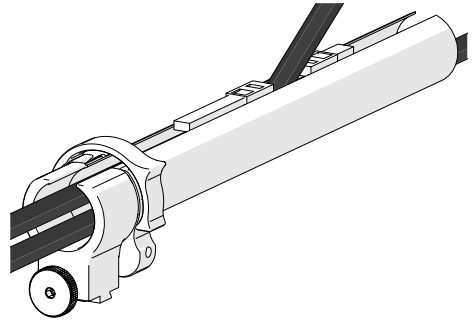

Fig. 68 - Flexibility
4. When necessary, the two zippers may be opened to allow cables to exit the tube anywhere between the ends (Fig. 68).